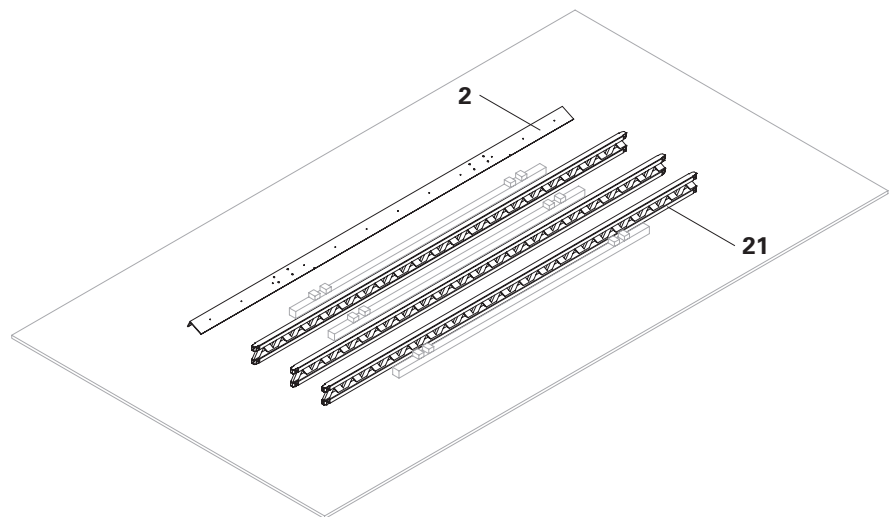

Fig. B4.04
1. Lay out Angle for ACS 2-console (**2**) and Formwork Girder GT 24 (**21**) on the assembly area and roughly align with the installation position. (Fig. B4.04)